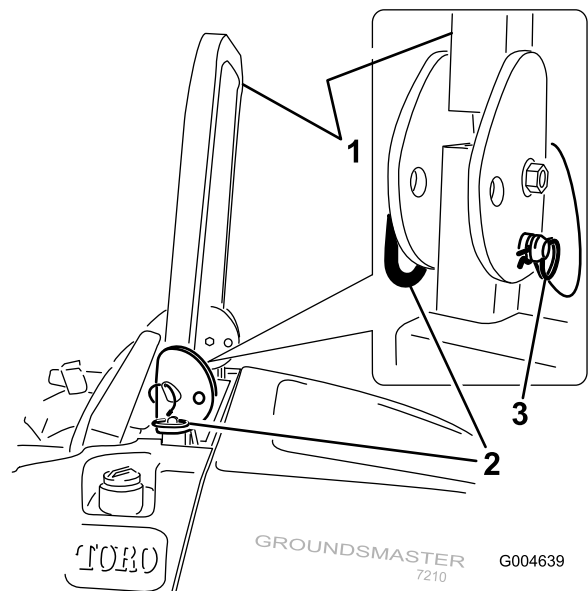

Figure 42
1. To lower the roll bar, remove the hairpin cotters, push the roll bar forward against the springs, and remove the 2 pins (Figure 42).
3. Install the 2 pins and secure them with the hairpin cotter pins (Figure 42).
4. To raise the roll bar, remove the hairpin cotter pins and remove the 2 pins (Figure 42).
5. Raise the roll bar to the upright position and install the two pins and secure them with the hairpin cotter pins (Figure 42).